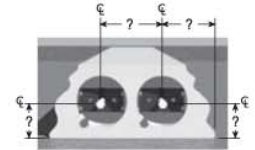

FIGURE 4A
A) Temporarily thread a 5/16" - 18 x 5" HEX HEAD CAP SCREW into center of the BEAR CLAW BRACKET and record the indicated center line measurements (FIG. 4A).